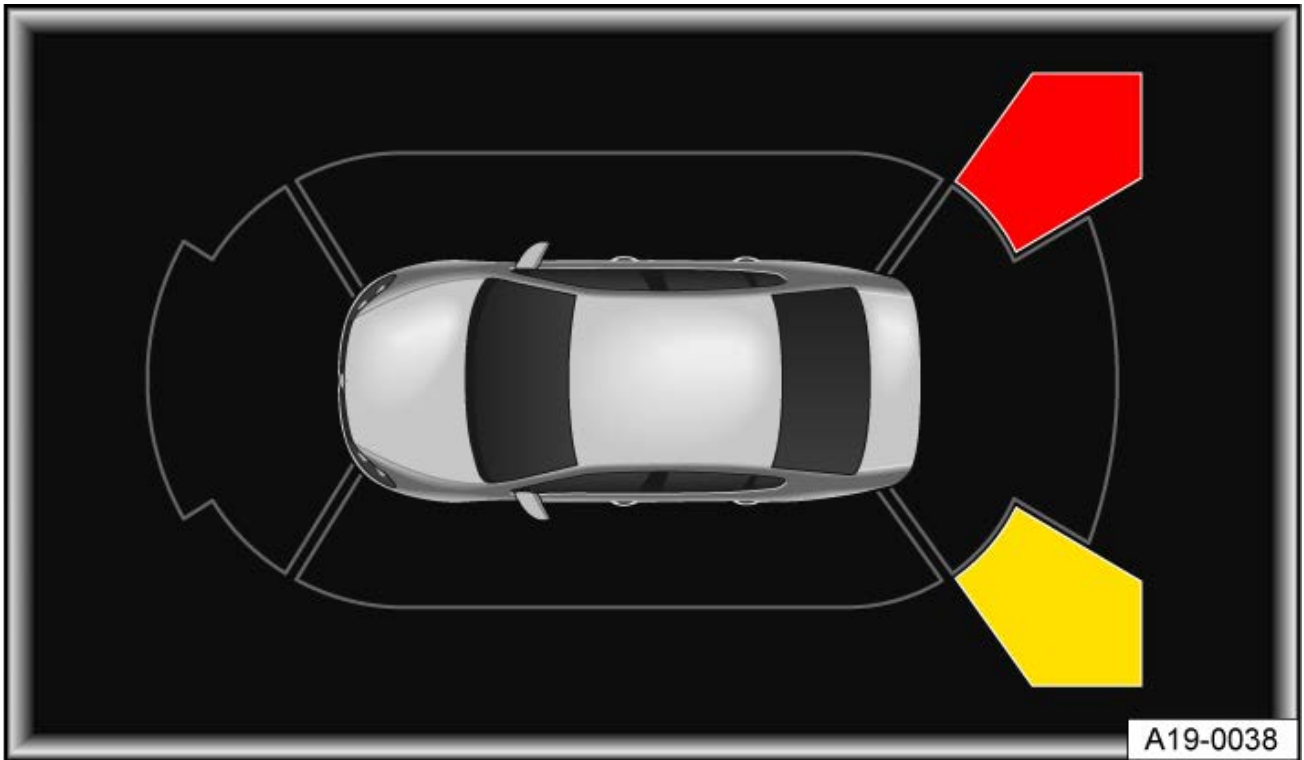

Fig. 2 On the Infotainment system screen: Rear Traffic Alert display.
- Note any warning chimes or messages in the instrument cluster display. Colored segments on the Infotainment system screen show the area concerned behind the vehicle → *fig. 2*.